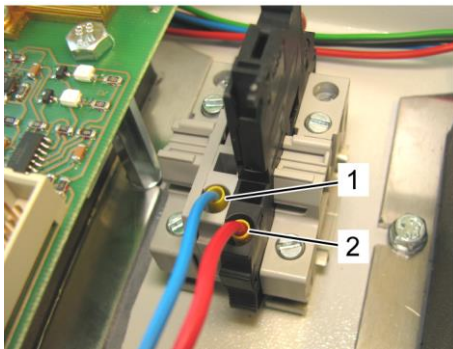

Fig. 83: Connection with 24 V DC
1. Connect the conductors of the power supply according to Fig. 83. For details refer to the respective terminal diagrams.